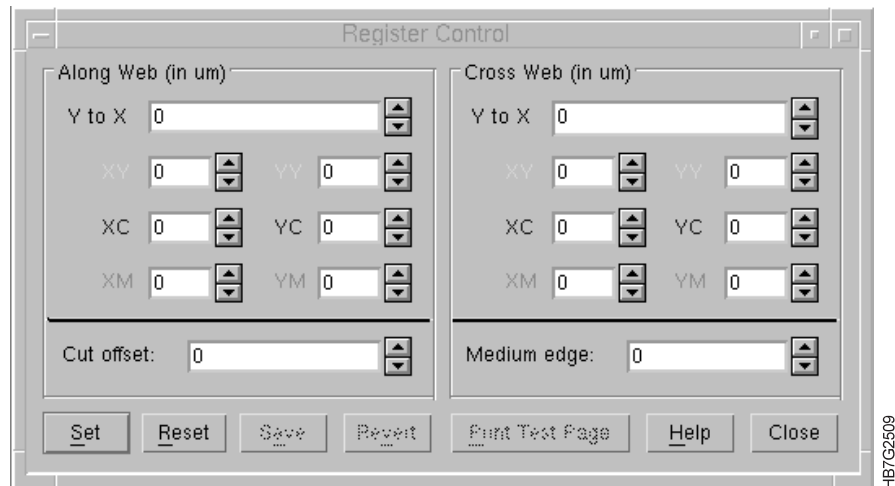

Figure 155. Register Control Window
- Adjust the cutter registration value in the **Cut Offset** box in the **Register Control** window, as shown in Figure 155.